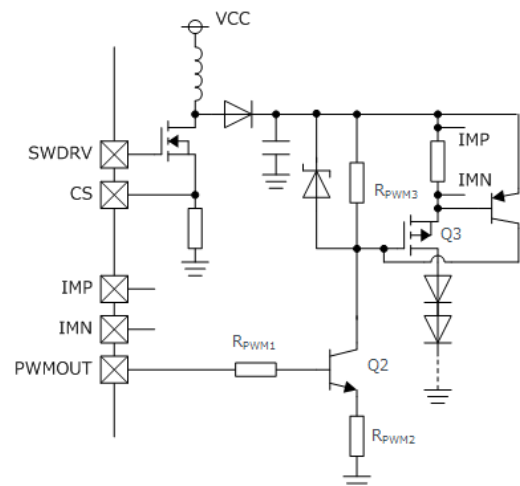

Figure 22. LED Anode Ground Fault Protection Attaching Externally Circuitry
- ① UVLO is cancelled when $V_{CC} > 4.25 \text{ V}$ (Typ).
- ② IMP-IMN terminal voltage rises to become 200 mV.
- ③ Switching Duty gradually expands and is stabilized at IMP-IMN of 200 mV.
- ④ Output voltage is stabilized.
- ⑤ LED Anode-GND short-circuits.
- ⑥ It becomes $\text{IMP-IMN} \geq 0.3 \text{ V}$ (Typ) and performs output Short circuit detection (SCP) and outputs SWDRV / PWMOUT = Low. Discharges an SS terminal and the FAIL terminal changes into High \Rightarrow Low.
- ⑦ When SCP is detected, capacitor connected to TDISC will be charged ($11 \mu\text{A}$ (Typ)) until V_{TDISC} becomes 1.0 V (Typ).
- ⑧ Once SCP detection is released at $V_{\text{TDISC}} \geq 1.0 \text{ V}$ (Typ), capacitor connected to TDISC starts to discharge, and SS charging, SWDRV / PWMOUT operate normally.
- ⑨ If SCP condition $V_{\text{TDISC}} \geq 0.3 \text{ V}$ (Typ) is fulfilled restarts from condition ⑥ operates normally if SCP condition is not fulfilled.
Operation described above is performed in the LED anode ground short fault. However, even if SCP is detected by the potential difference of IMP pin and the IMN pin, there is delay time of internal circuit after detection and require time before PchMOS is off. Therefore allowable current of PchMOS may be exceeded transiently. (It may be exceeded in ⑧ of the timing mentioned above.) Therefore, like Figure 22, PMOS can be turned off on an expressway by adding PNP Tr externally.